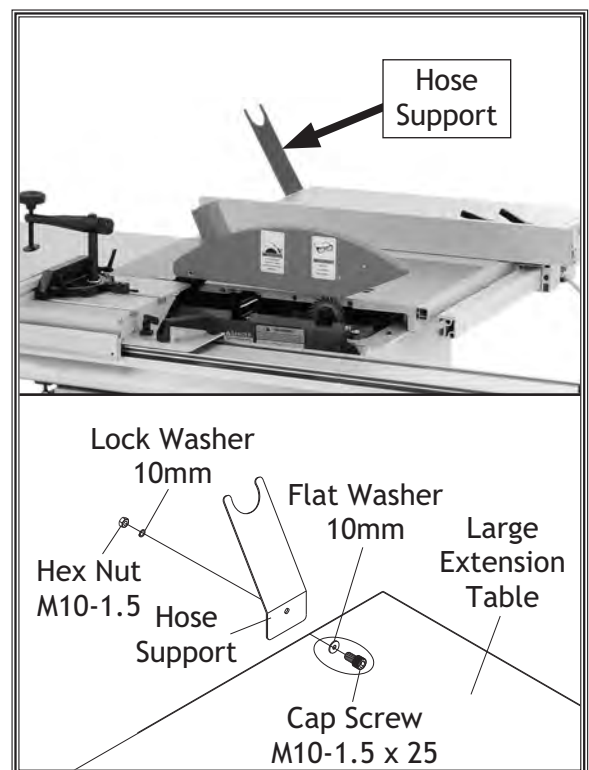

Figure 41. Hose support installed.
39. Install the hose support, as shown in **Figure 41**, with hardware shown below.